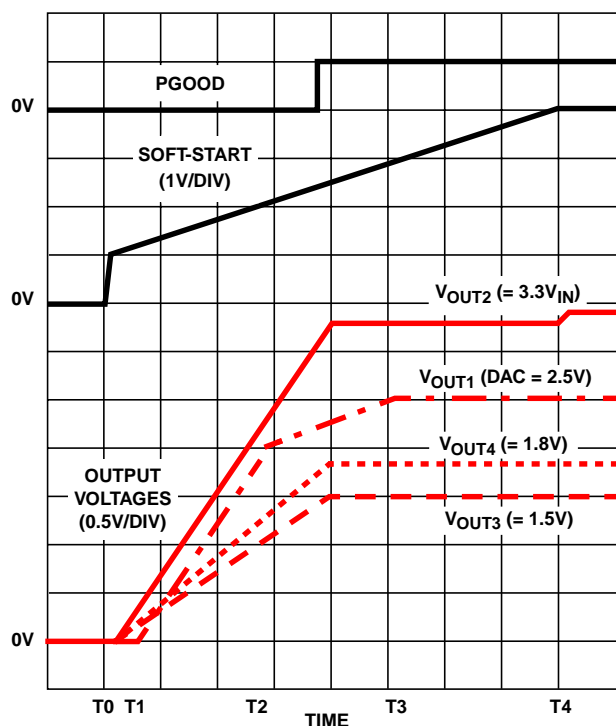
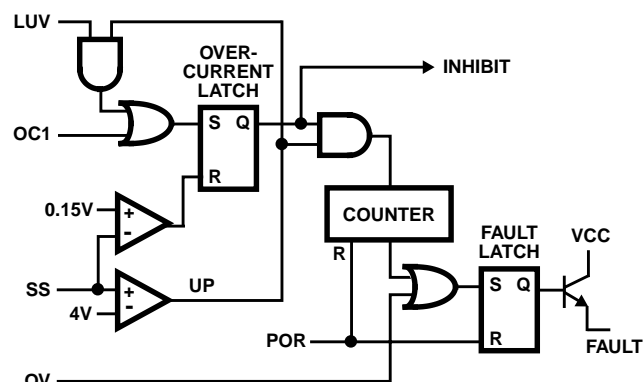

FIGURE 2. SOFT-START INTERVAL
FIGURE 3. FAULT LOGIC - SIMPLIFIED SCHEMATIC
Figure 2 shows the soft-start sequence for the typical application. At  $T_0$  the SS voltage rapidly increases to approximately 1V. At  $T_1$ , the SS pin and error amplifier output voltage reach the valley of the oscillator's triangle wave. The oscillator's triangular waveform is compared to the clamped error amplifier output voltage. As the SS pin voltage increases, the pulse width on the PHASE pin increases. The interval of increasing pulse width continues until each output reaches sufficient voltage to transfer control to the input reference clamp. If we consider the 2.5V core output ( $V_{OUT1}$ ) in Figure 2, this time occurs at  $T_2$ . During the interval between  $T_2$  and  $T_3$ , the error amplifier reference ramps to the final value and the converter regulates the output a voltage proportional to the SS pin voltage. At  $T_3$  the input clamp voltage exceeds the reference voltage and the output voltage is in regulation.
Figure 3 shows a simplified schematic of the fault logic. An over-voltage detected on  $V_{SEN1}$  immediately sets the fault latch. A sequence of three over-current fault signals also sets the fault latch. The over-current latch is set dependent upon the states of the over-current (OC), linear under-voltage (LUV) and the soft-start signals. A window comparator monitors the SS pin and indicates when  $C_{SS}$  is fully charged to 4V (UP signal). An under-voltage on either linear output ( $V_{SEN2}$ ,  $V_{SEN3}$ , or  $V_{SEN4}$ ) is ignored until after the soft-start interval (T4 in Figure 2). This allows  $V_{OUT2}$ ,  $V_{OUT3}$ , and  $V_{OUT4}$  to increase without fault at start-up. Cycling the bias input voltage ( $+12V_{IN}$  on the VCC pin off then on) resets the counter and the fault latch.
Initially, the soft-start function clamps the error amplifier's output of the PWM converter. This generates PHASE pulses of increasing width that charge the output capacitor(s). After the output voltage increases to approximately 70% of the set value, the reference input of the error amplifier is clamped to a voltage proportional to the SS pin voltage. The resulting output voltages start-up as shown in Figure 2.